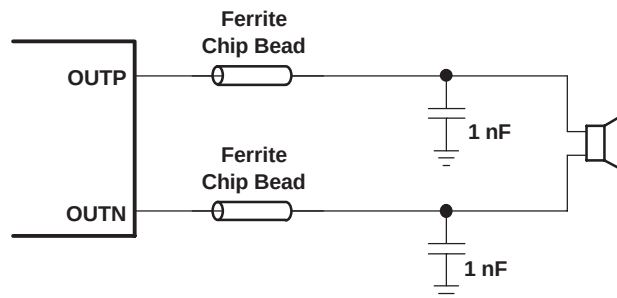

Figure 34. Typical Ferrite Chip Bead Filter (Chip bead example: Fair-Rite 2512067007Y3)
- Output filter — The ferrite EMI filter (Figure 34) should be placed as close to the output terminals as possible for the best EMI performance. The LC filter (Figure 33) should be placed close to the outputs. The capacitors used in both the ferrite and LC filters should be grounded to power ground.